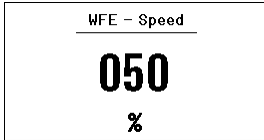

Fig. 35:
The WX 1 Soldering Station detects automatically which auxiliary device is connected. The WX 1 Soldering Station shows the symbol or name of the connected auxiliary device on the front port (23), see Fig. 35 or rear port (23/18).